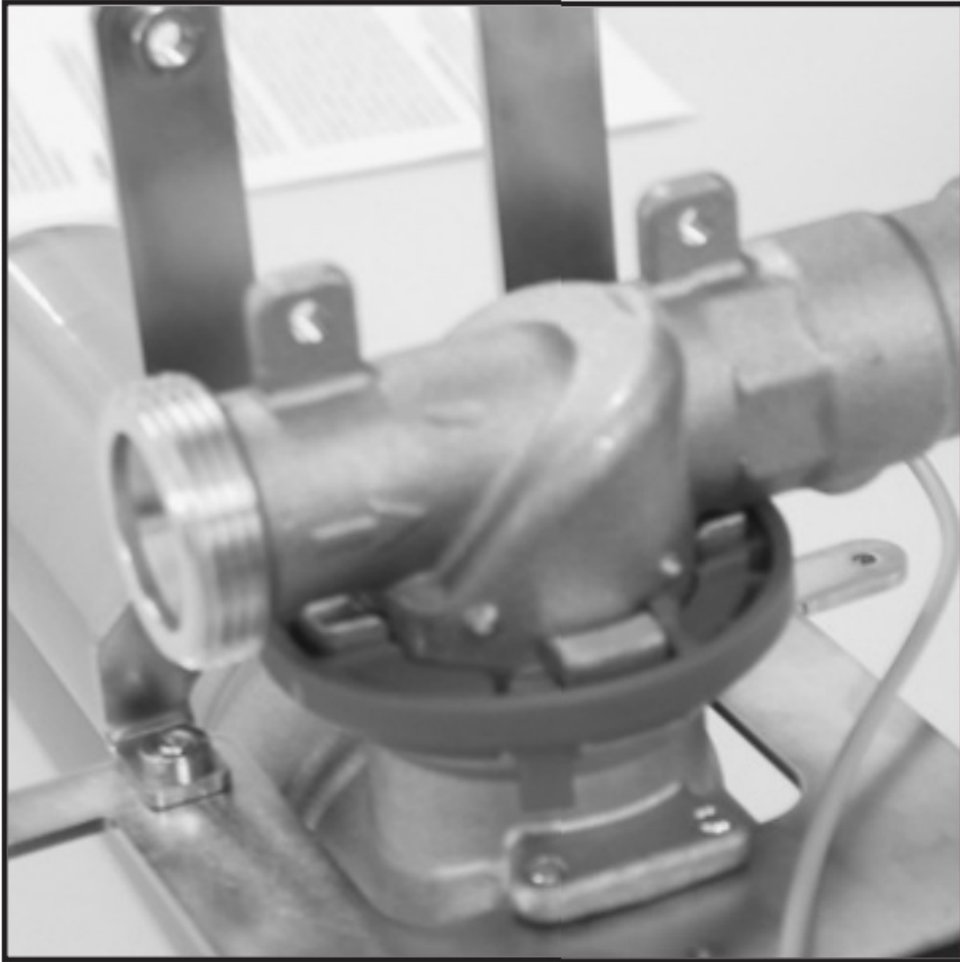

Fig. 3
- **b.** Set the device down with its back facing up on a soft base (see Fig. 3).